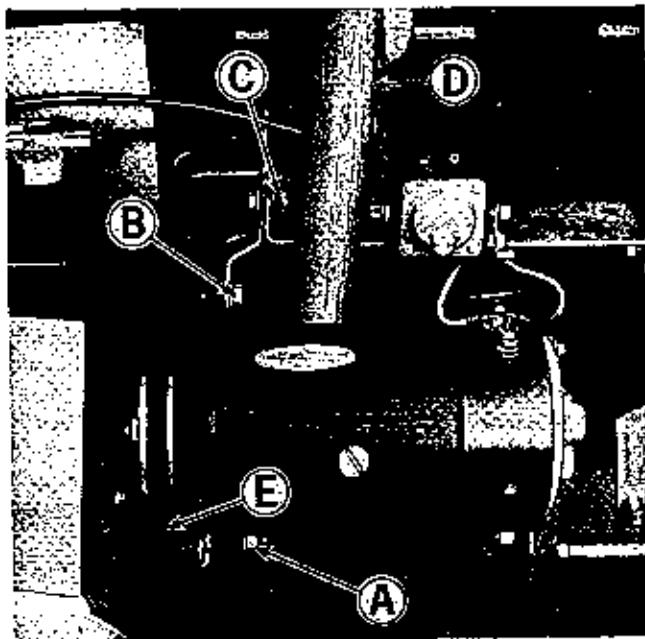

Figure 17. Generator located on right side of engine.
See figure 17. If the starter turns, but the engine does not rotate, the starter generator belt may need tightening. Proceed as follows:
2. See figure 17. Loosen slightly the two nuts (A) cap screw (B) and nut (C). Use a pry bar similar to the one shown between the generator and engine block to apply pressure to the generator and tighten the belt. The belt should be tight enough so thumb pressure at (E) will deflect it about $1/4"$.
3. While holding the pry bar to maintain tension on the belt, tighten the mounting bracket at (C) securely.
4. Actuate the starter to make sure the engine will rotate. If it does not, loosen the nut at (C) and apply more tension to the belt.
5. Tighten the two nuts at (A) and the cap screw (B) securely.